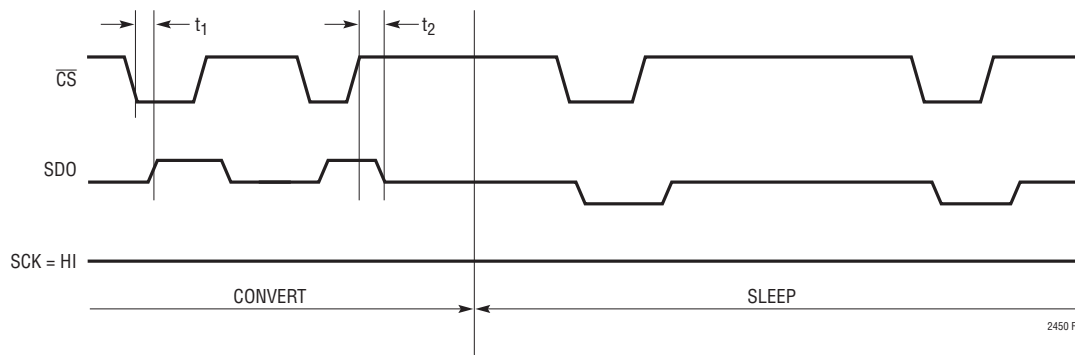

Figure 4. Conversion Status Monitoring Mode
**Note 8:** See Figure 4.
For certain applications, the user may wish to monitor the LTC2450 conversion status. This can be achieved by holding SCK HIGH during the conversion cycle. In this condition, whenever the  $\overline{CS}$  input pin is pulled low ( $\overline{CS} = \text{LOW}$ ), the SDO output pin will provide an indication of the conversion status. SDO = HIGH is an indication of a conversion cycle in progress while SDO = LOW is an indication of a completed conversion cycle. An example of such a sequence is shown in Figure 4.